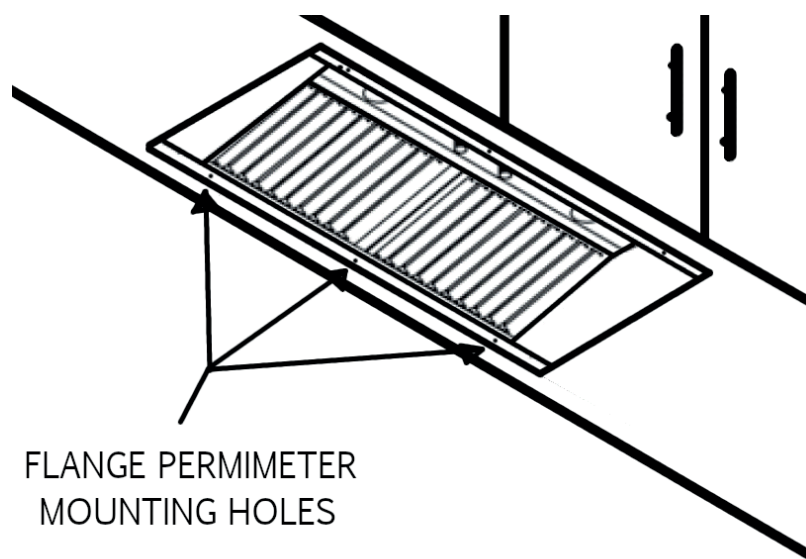

FIGURE 7: SECURE FLANGE TO MOUNTING LOCATION
2. Once inserted, use customer provided hardware to secure the flange to the mounting location using the flange perimeter mounting holes (SEE FIGURE 7)